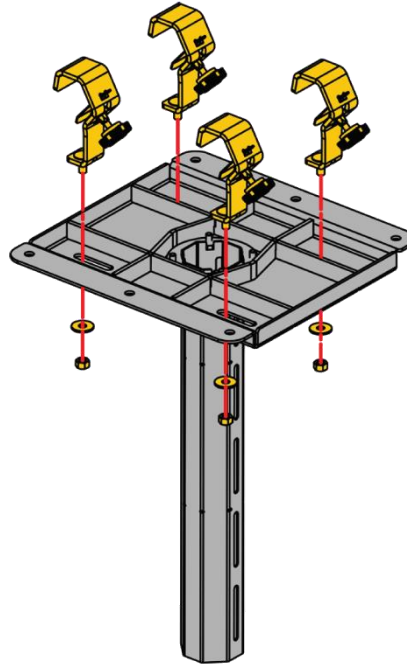

Figure 82: Step 3B-1
1. [Optional] For fastening the VM-1140 to a truss, use the truss clamp kit hook (14). First, fasten the truss clamps to the ceiling plate (1) without tightening the nuts, as shown in **Figure 82**.